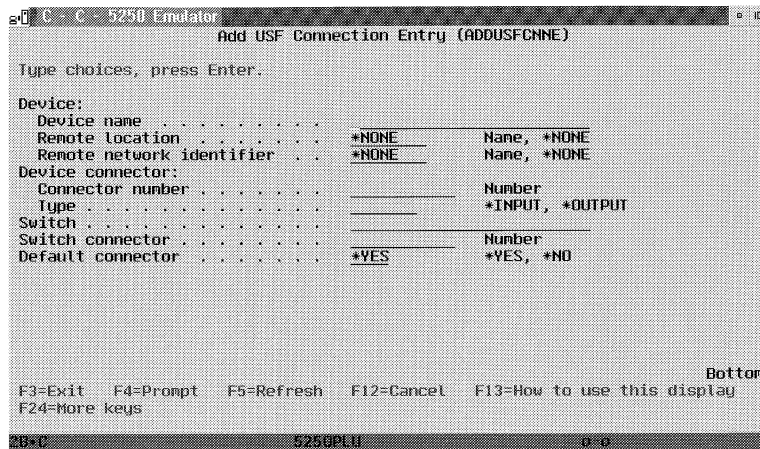

Figure 4-7. The Add USF Connection Entry Display
2. Type **1** for Add in the **Opt** column; then press **Enter**. The Add USF Connection Entry display appears. Figure 4-7 on page 4-13 shows an example of this display.